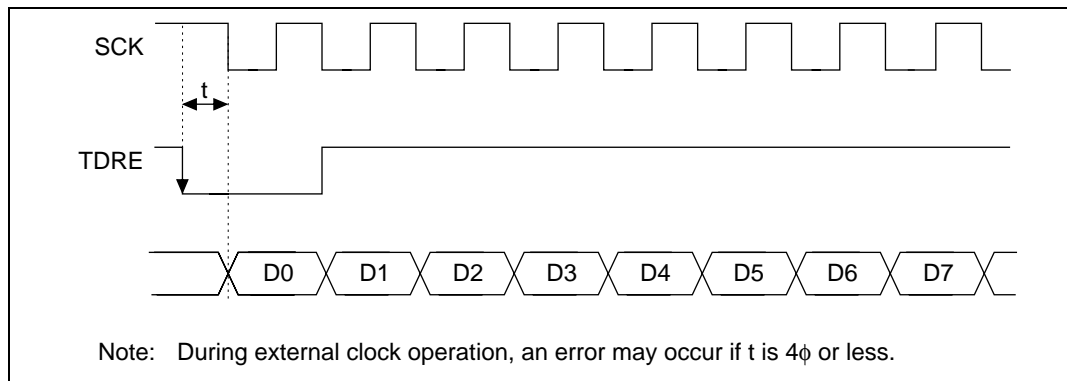

Figure 13.24 Example of Clock Synchronous Transmission with DMAC
- When using an external clock source for the synchronization clock, update the TDR with the DMAC, and then after five system clocks or more elapse, input a transmit clock. If a transmit clock is input in the first four system clocks after the TDR is written, an error may occur (figure 13.24).